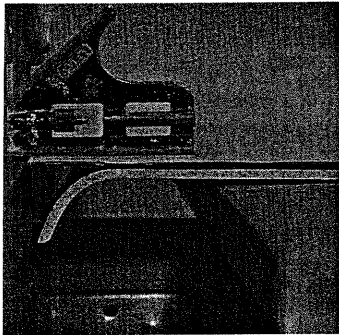

Figure 5
*Align the edge of the template  $\frac{1}{4}$ -inch beyond the curved edge of the panel* with your carpenter’s square. See figure 5. This is to compensate for the thickness of back wall panels.